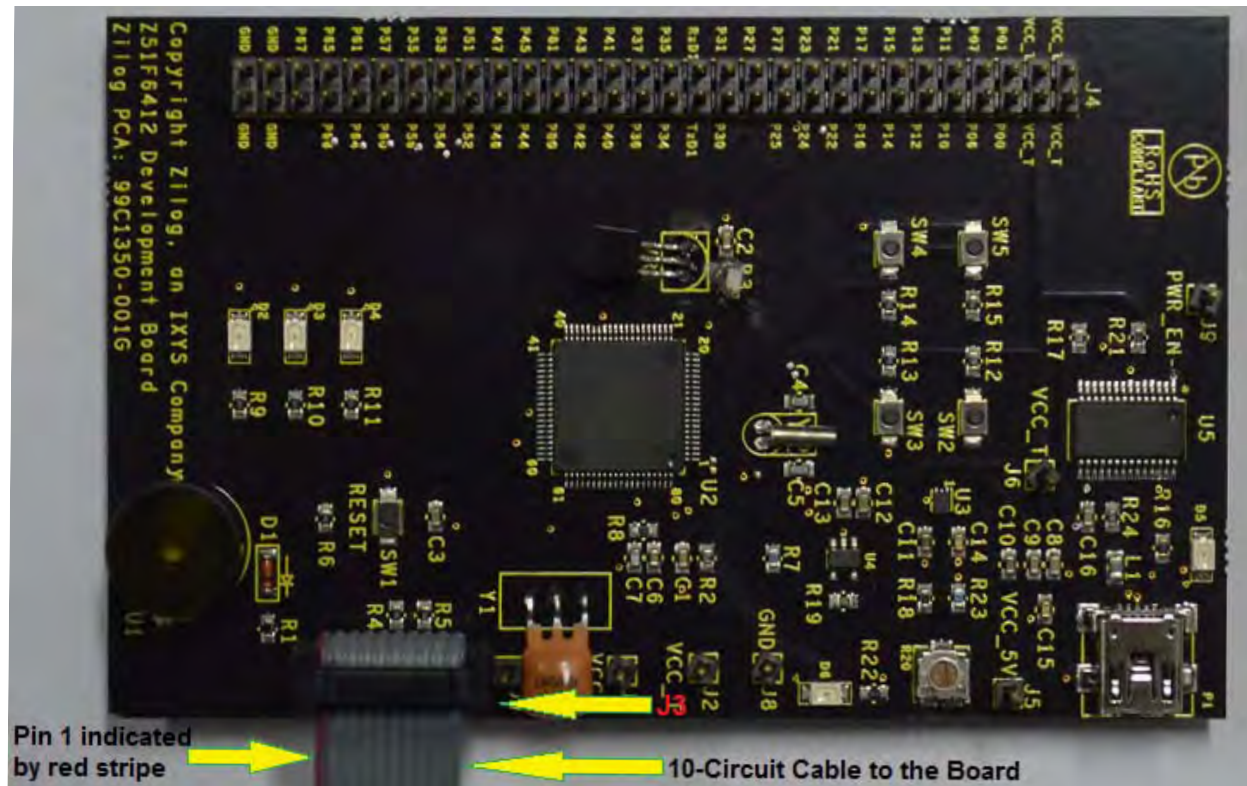

Figure 13. Connecting the 10-Circuit Cable to the Board
3. Connect the other end of the 10-circuit cable connector to the Board's J3 connector. Pin 1 of the cable connector is indicated by a red stripe, as shown in Figure 13.